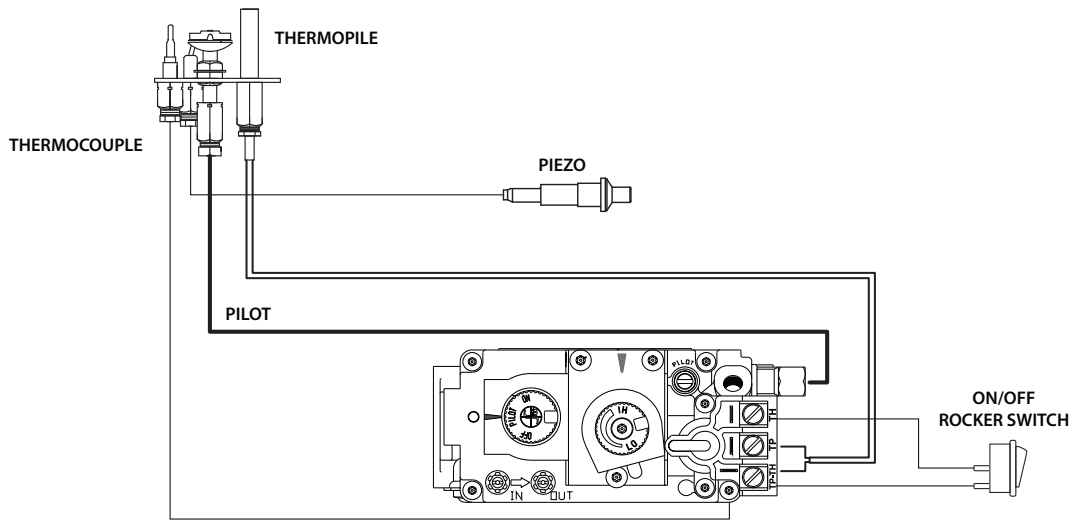

Figure 10.1, Millivolt Gas Valve Wiring Schematic with ON/OFF Rocker Switch
- It is optional to disable rocker switch operating the main burner by disconnecting the wires from the back of the gas valve (Figure 10.1).